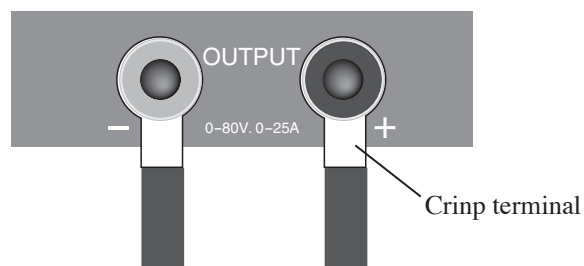

Fig. 3-14 Connecting to the auxiliary output terminal on the front panel
4. Connect the load cable to the auxiliary output terminal. See Fig. 3-14.